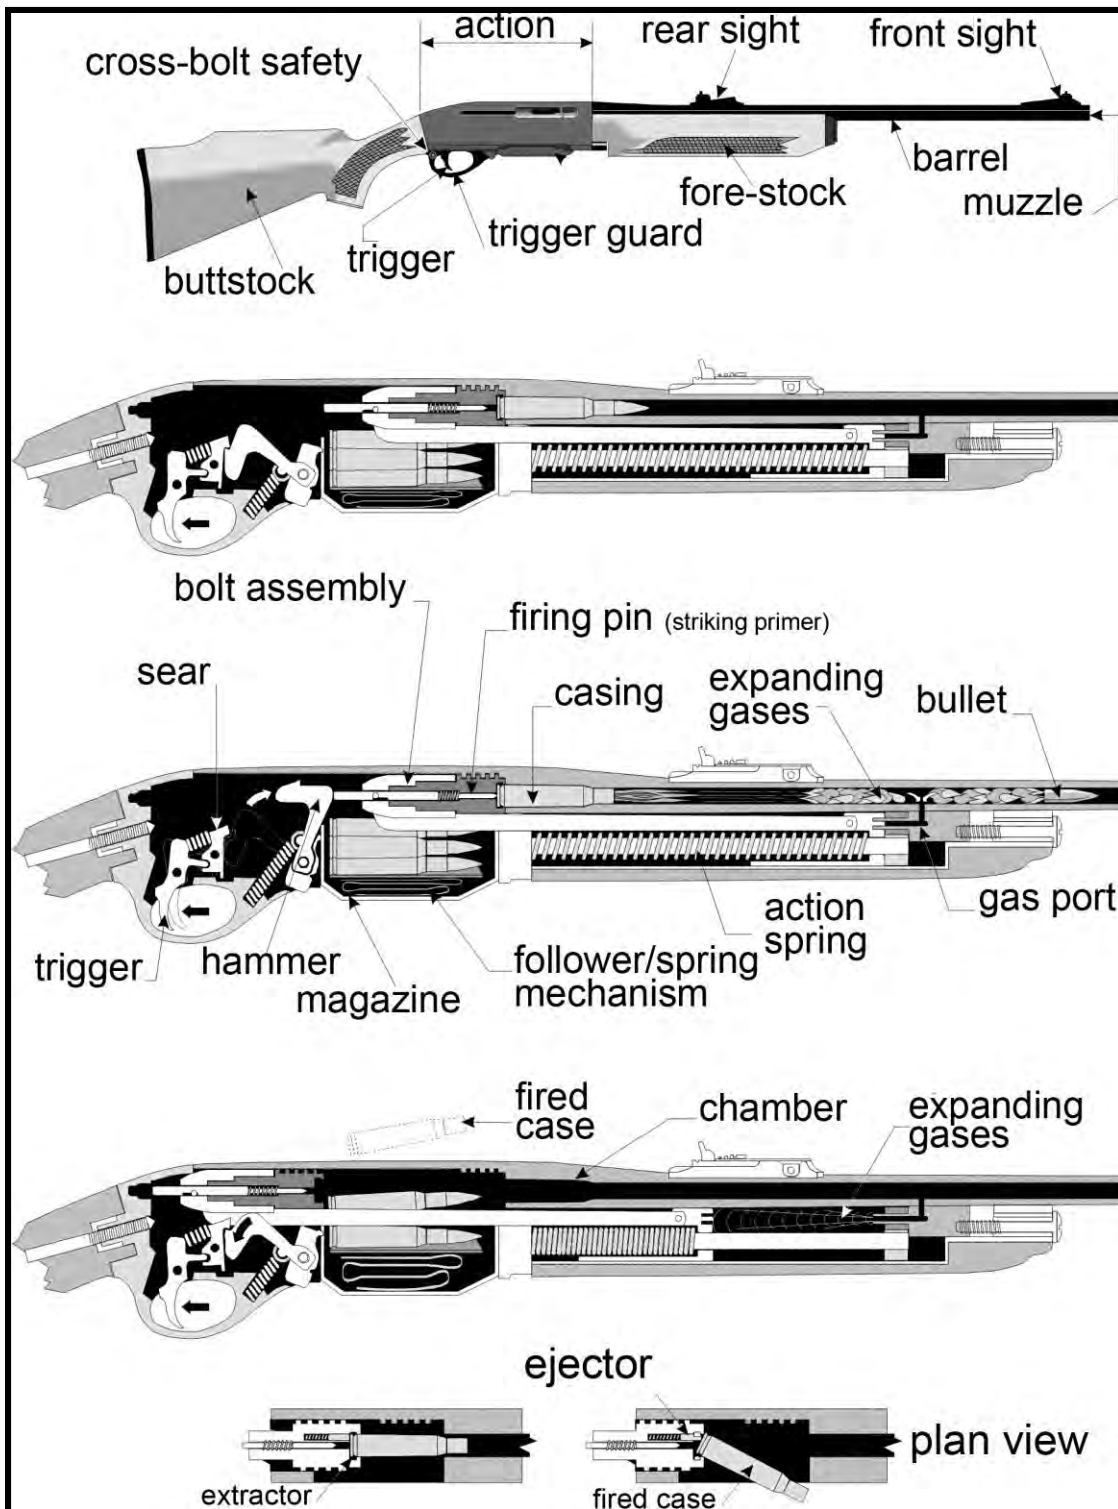

Figure 55. Firing Sequence of a Semi-automatic Rifle
- b. With each pull of the trigger, the semi-automatic action uses part of the energy of the expanding gas from the burning powder to extract the empty cartridge case and to reload the chamber. In other words, no hand movement is needed to load another cartridge into the firing position; each time a cartridge is fired, another is loaded into the chamber (Figure 55).